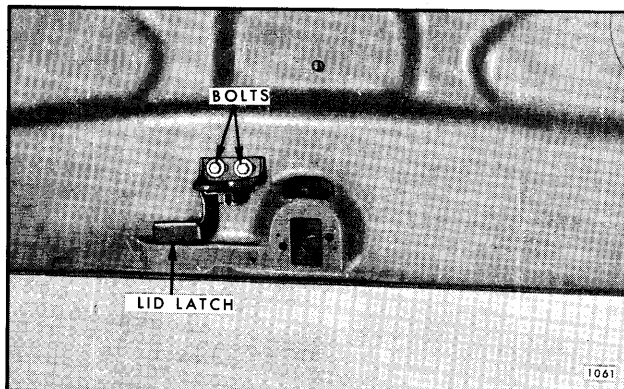

Fig. 8-19—Engine Compartment Lid Latch Assembly - "Z" Styles
2. Remove two bolts securing latch to engine compartment inner panel and remove assembly from body (see Fig. 8-19).